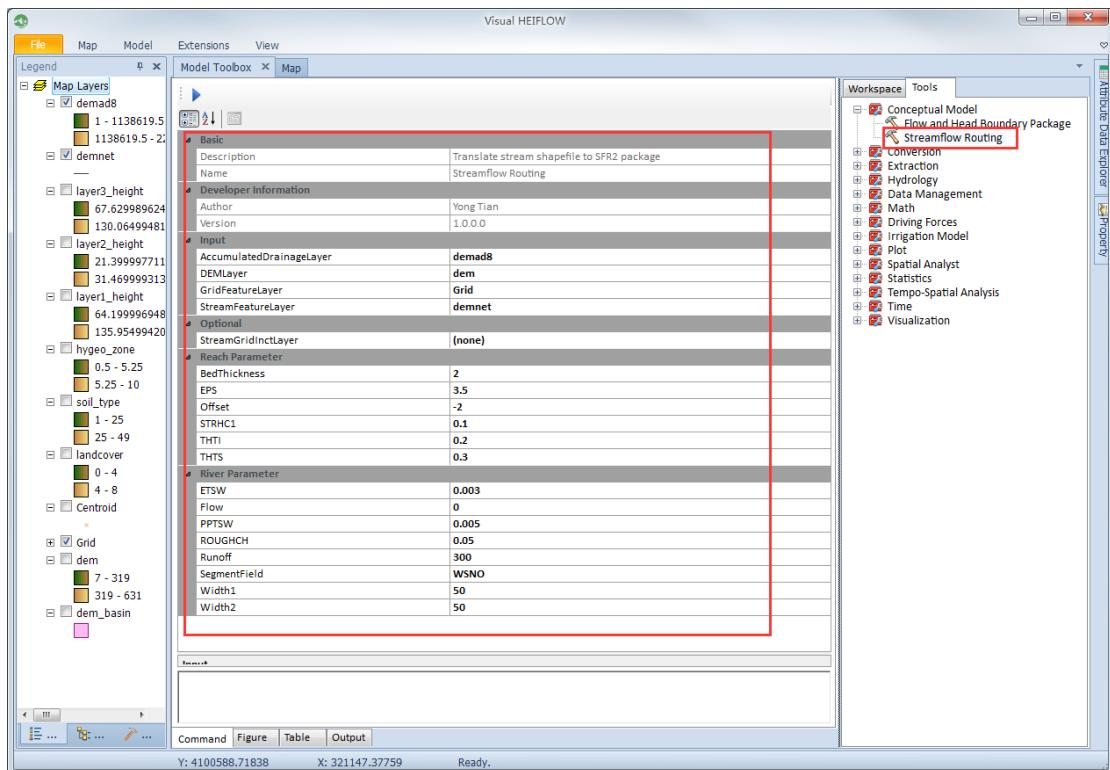

Figure 5-28. Inputs of the Streamflow Routing tool
- 6) In the Model Toolbox View, select Conceptual Model -> Streamflow Routing and double click it, set the inputs as shown in Figure 5-28.